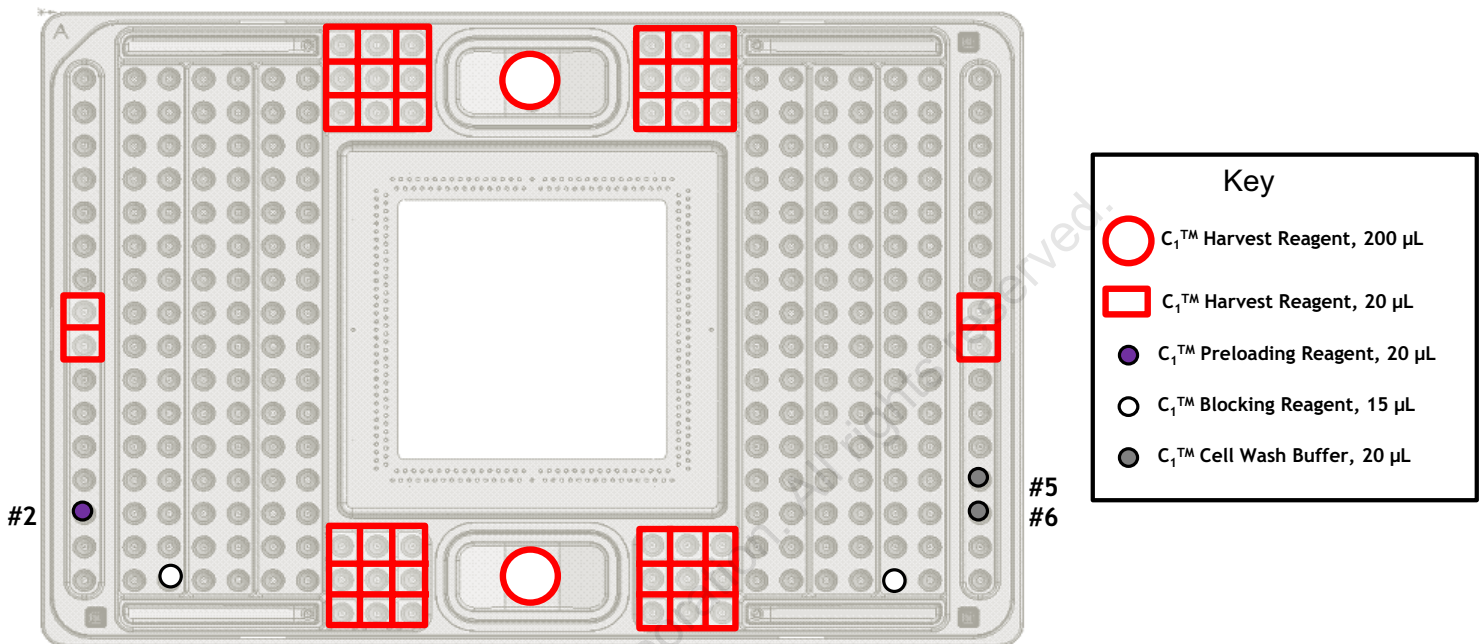

Figure 6 C₁[™] Chip priming pipetting map
- 1 Add 200 µL of C₁[™] Harvest Reagent from 4 mL bottle into accumulators marked with red circles in Figure 6 using a pipette tip.